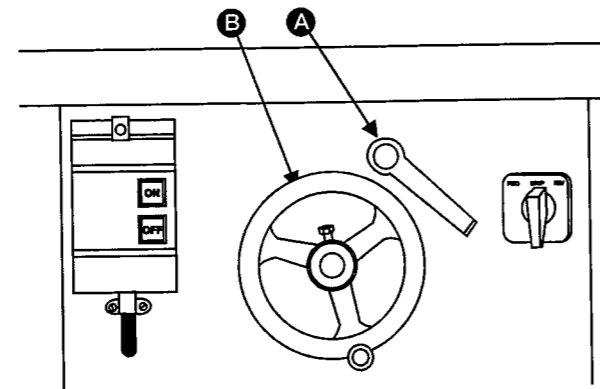

FIGURE 11
To change the spindle height, loosen the clamping handwheel (A), Figure 11, and turn handwheel (B) to raise or lower the spindle. Tighten the clamping handwheel after the spindle is at the desired height.